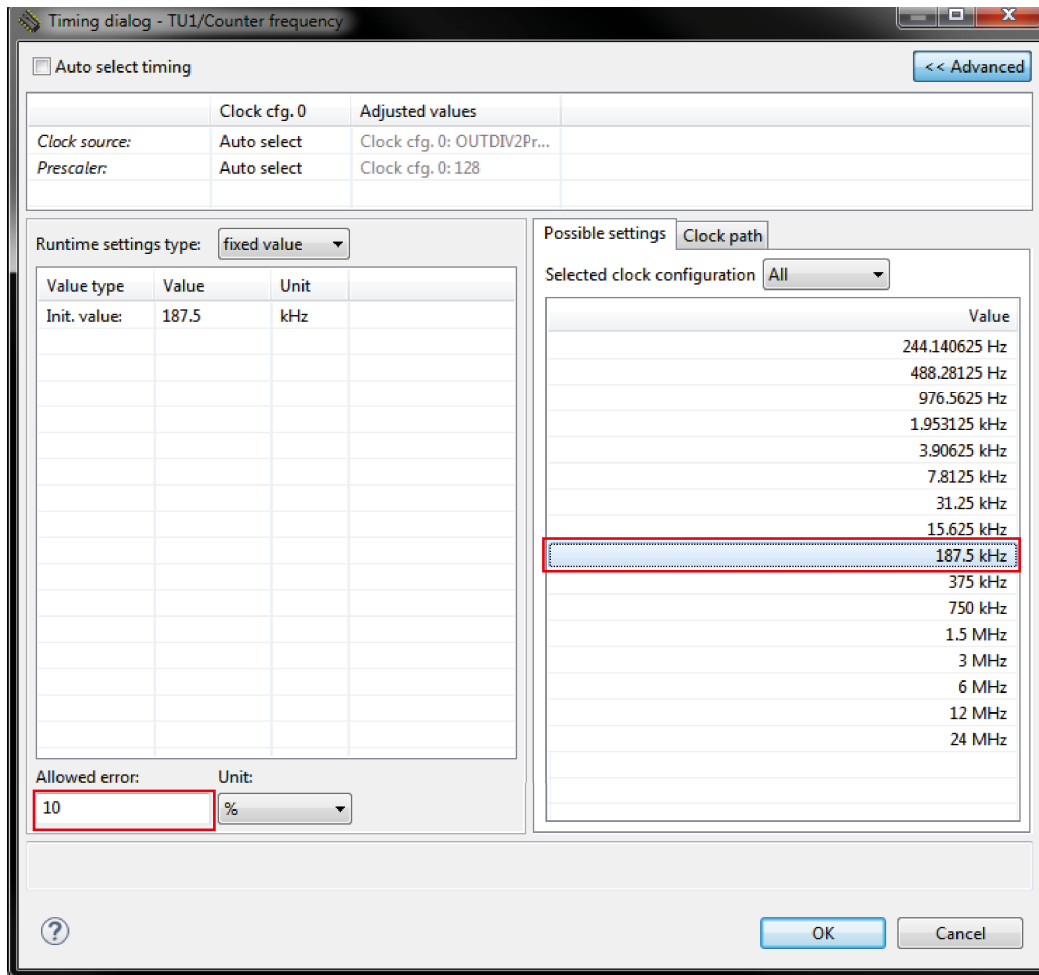

Figure 10. Component TimerUnit\_LDD timing dialog—select input frequency
d) Set the **Allowed Error** value at 10% (see Figure 10).